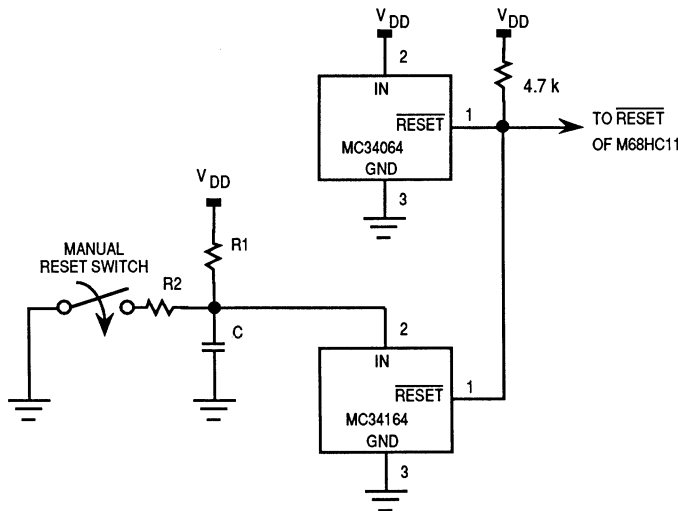

Figure 2-3. External Reset Circuit
An active low bidirectional control signal,  $\overline{\text{RESET}}$ , acts as an input to initialize the MCU to a known startup state. It also acts as an open-drain output to indicate that an internal failure has been detected in either the clock monitor or COP watchdog circuit. The CPU distinguishes between internal and external reset conditions by sensing whether the reset pin rises to a logic one in less than two E-clock cycles after a reset has occurred. It is not advisable to connect an external resistor capacitor (RC) power-up delay circuit to the reset pin of M68HC11 devices because the circuit charge time constant can cause the device to misinterpret the type of reset that occurred. Refer to **SECTION 5 RESETS AND INTERRUPTS** for further information. Figure 2-3 illustrates a reset circuit that uses an external switch. Other circuits can be used, however, it is important to incorporate a low voltage interrupt (LVI) circuit to prevent power transitions that would cause corruption of RAM or EEPROM.